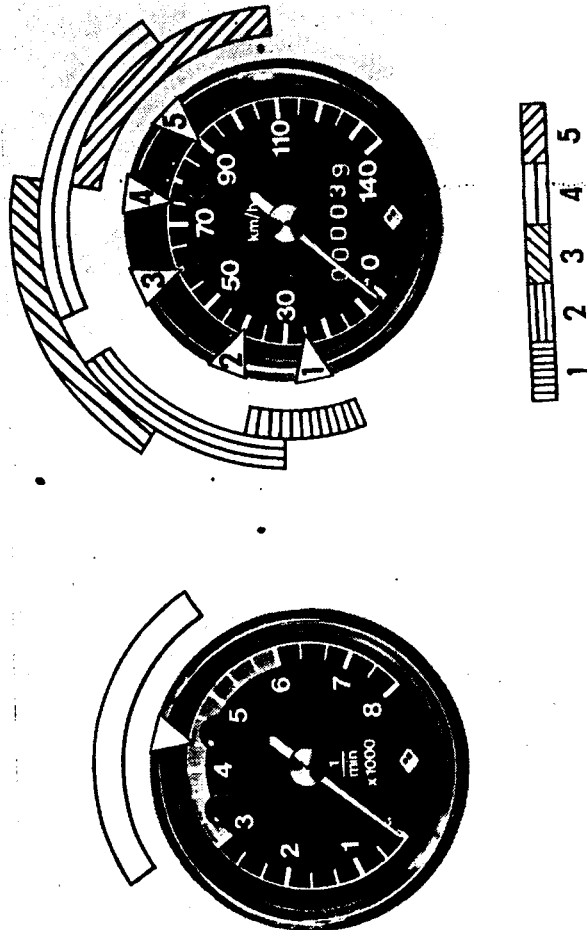

Fig. 9. Engine speed and travel speed ranges
The temperature of the engine need not be raised when the vehicle is stationary, it rises during road operation. Actuate the clutch lever and shift gears, starting with the first gear in engagement. The operating ranges of the various gears are shown in Fig. 9.
2. Observe the ranges specified for the various gears in Fig. 9 during running-in, and change gears in time.